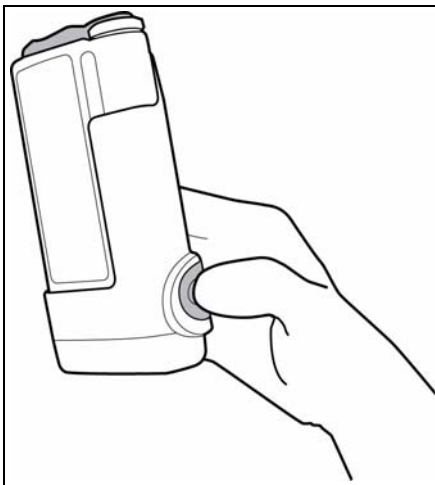

FIGURE 10-8 SpO₂ Module Release Button
2. Press the large button on the right side of the SpO₂ module (shown in FIGURE 10-8) until a loud audible click is heard. The click sound indicates that the latch is has been properly disengaged from the Telepack-608.